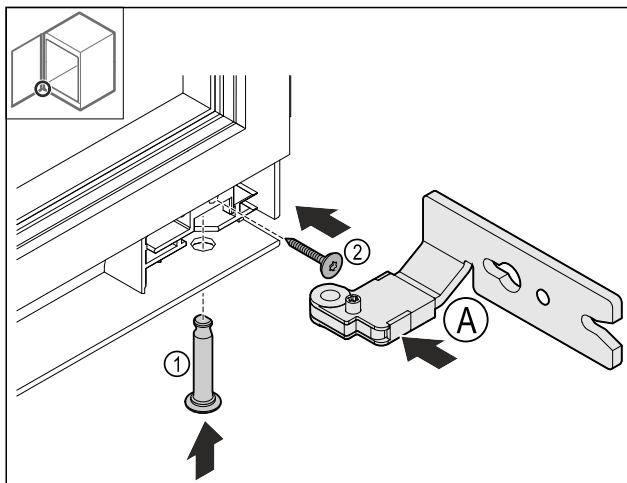

Fig. 26
- Insert the bottom hinge Fig. 26 (A).
- Insert the pin Fig. 26 (1) and hold it.
- Tighten the screw Fig. 26 (2).